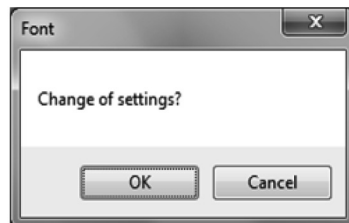

Fig.85
- ④ After the setting is complete, click the "OK" button to display a message box (Fig. 85).